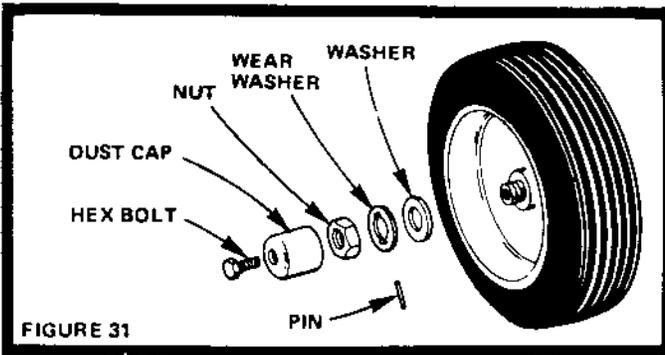

FIGURE 31
- d. Removing front wheel for tire repair (Fig. 31).